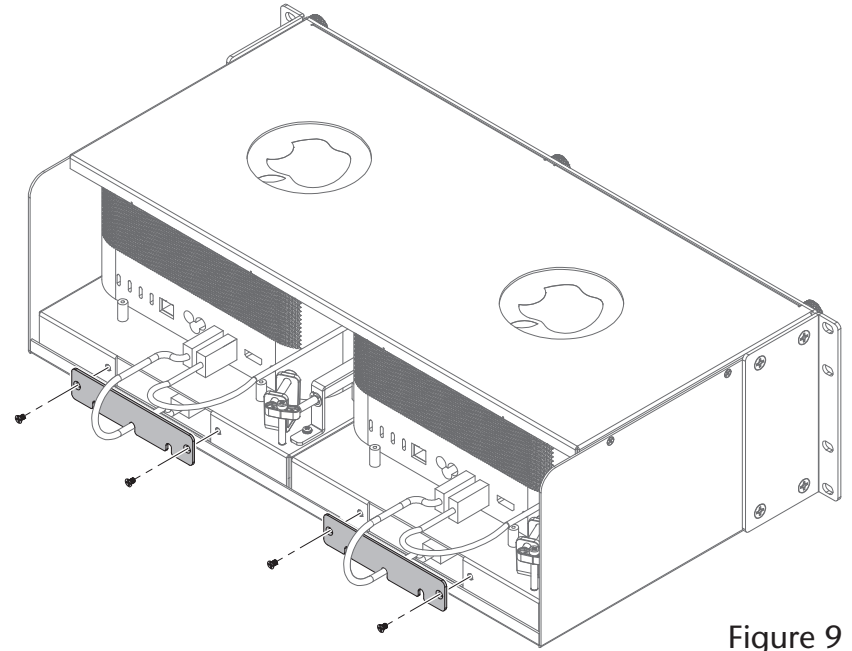

Figure 9
- Using the previously removed screws, secure the accessory space/airflow integrity cover plates to the enclosure (**Figure 9**).